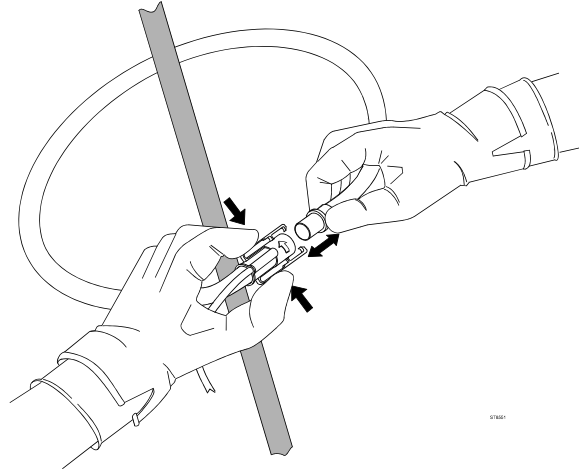

Figure 4. Connecting the flexible probe around the conductor.
4. Connect the flexible probe around the conductor (See Figure 4.)